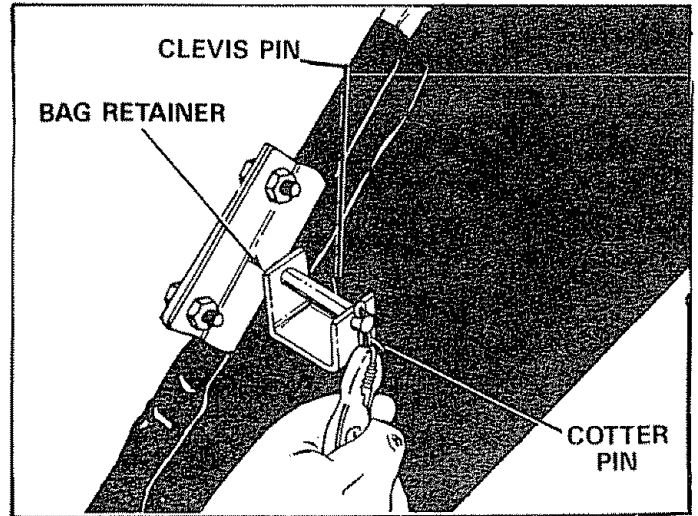

FIGURE 22
15. Assemble the bag retainers to clevis pins. Secure with cotter pins. See figure 22.